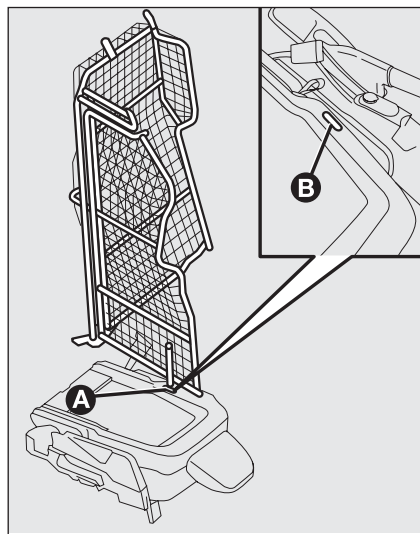

fig. 31
- ☐ from the loading compartment release the pin **A**-fig. 31 installed on the back of the partition and slide it into the housing **B** on the backrest of the folded seat.